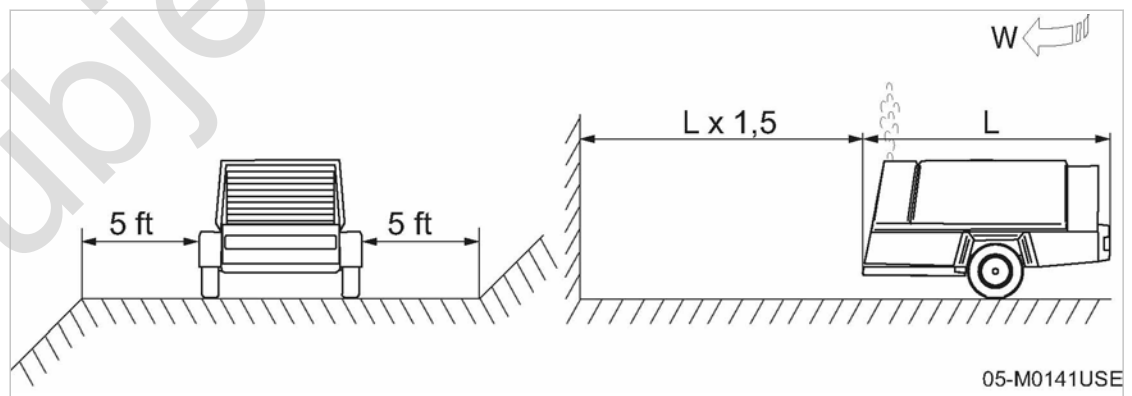

Fig. 19 Minimum distance from excavations/slopes and walls
- Do not allow exhaust gases and heated cooling air to be drawn into the compressor. Note the wind direction! (see figure 19)